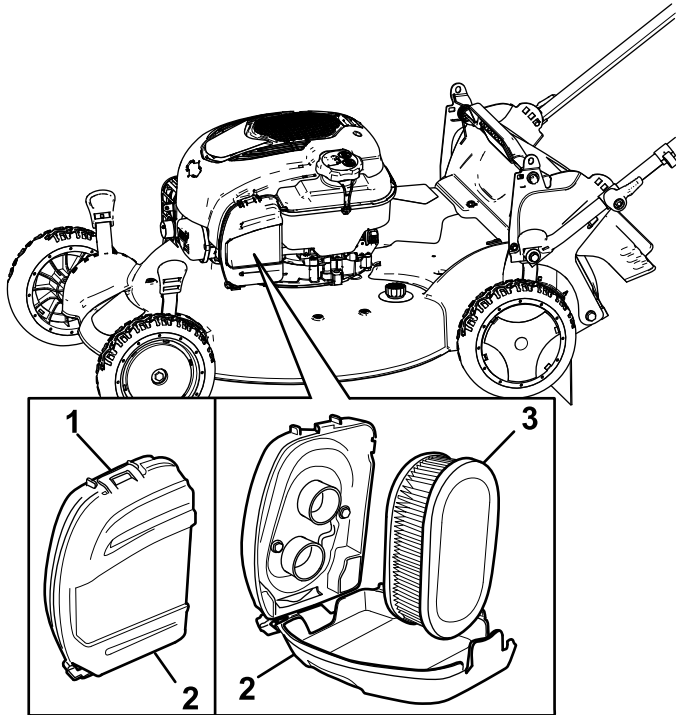

Figure 27
1. Use a screw driver to open the air-filter cover (Figure 27).